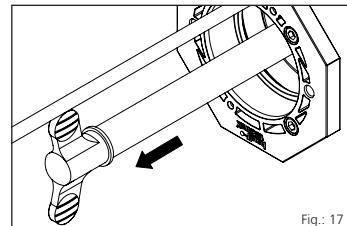

Fig.: 17
- 9** Then withdraw the quick tensioning device with the sleeve pipe approx. 1 cm as far as it will go (see Fig. 17).